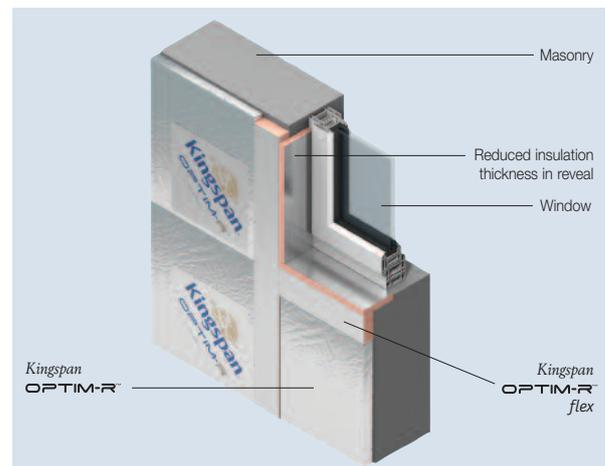

Figure 9
Reveals should be designed to accommodate the 20 mm of Kingspan OPTIM-R flex required to achieve an R-value of 0.6 m²·K/W, and the depth of the cladding system (see Figure 9).
- Care should be taken to install the specified thickness of insulation around reveals (see Figure 9).